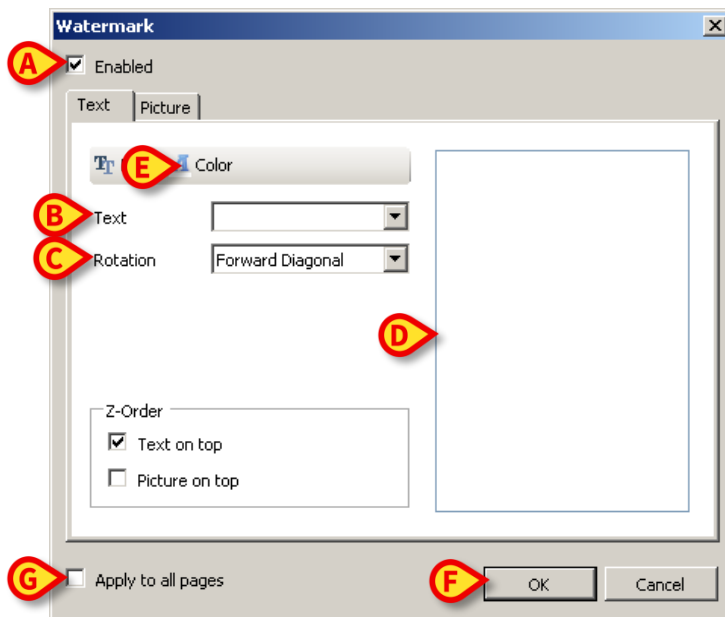

Fig 25
The following window is displayed (Fig 25).
- Ensure that the “**Enabled**” checkbox is checked (Fig 25 **A**). If not, the window’s contents cannot be edited
- Insert the text in the “**Text**” field (Fig 25 **B**)
- Use the “**Rotation**” menu (Fig 25 **C**) to specify the watermark orientation (diagonal, horizontal, vertical)
A print preview is displayed in the area indicated in Fig 25 **D**.
- Use the buttons indicated in Fig 25 **E** to select the watermark font and color
- Click the **Ok** button (Fig 25 **F**)
If the “**Apply to all pages**” checkbox is selected (Fig 25 **G**) the watermark is applied to each page in the document, otherwise it is applied only to the current page.